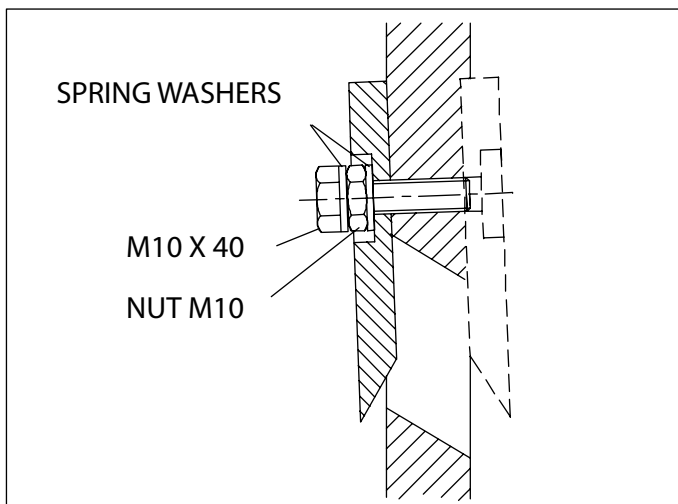

Fig. 12. Remove one knife and attach it to the other side of the disk. The dotted line shows the knife in its normal cutting position.
3. Place another spring washer on the bolt and turn the bolt through the knife into the disk. See Fig. 12. Tighten the bolts to 45 Nm. Attach the knife using all four bolts.